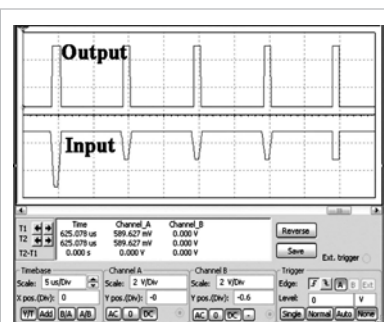

Figure 6 Positive output pulses are nearly the same width as negative input pulses.
1). Resistors R_3 and R_4 set the comparator's threshold voltage, but it depends on the value of the negative supply's voltage. You can calculate the threshold voltage using the equation $V_{T-} = [V_- / (R_3 + R_4)] \times R_4$, where V_- is the negative power-supply voltage. Figure 6 shows the circuit's waveforms.